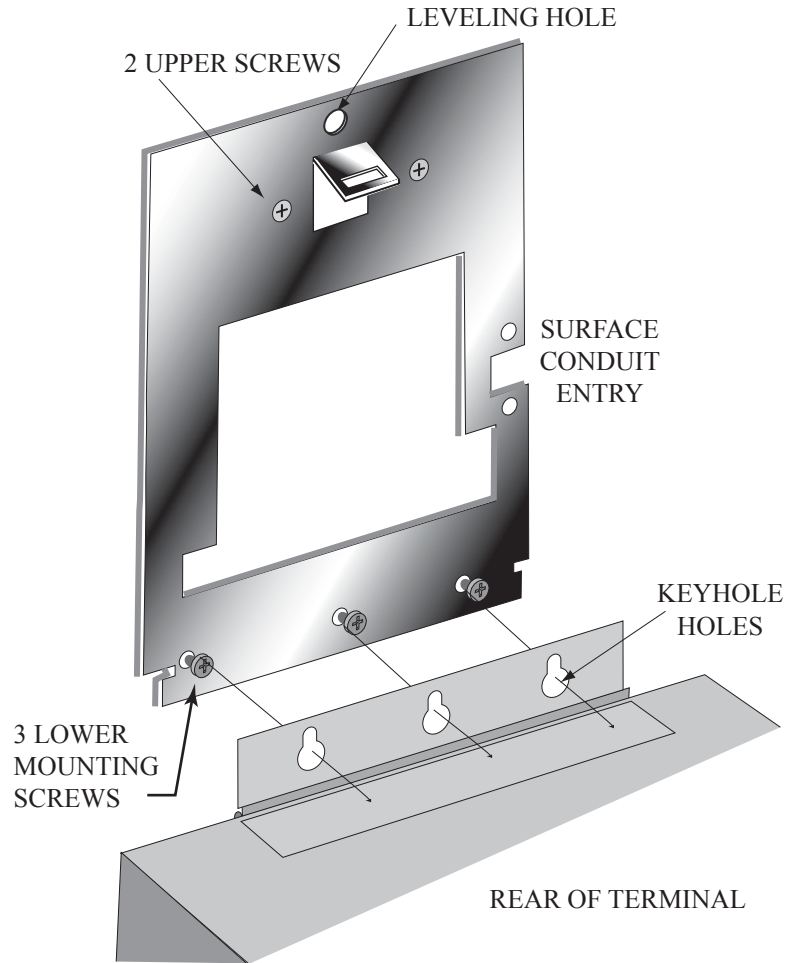

Figure 3-3: Attaching the HandPunch to the Wall Plate
3. At the base of the HandPunch is a piano hinge with three keyhole shaped slots that correspond with the three lower mounting screws. Align and hang the HandPunch from the three lower mounting screws (see Figure 3-3 on page 18).